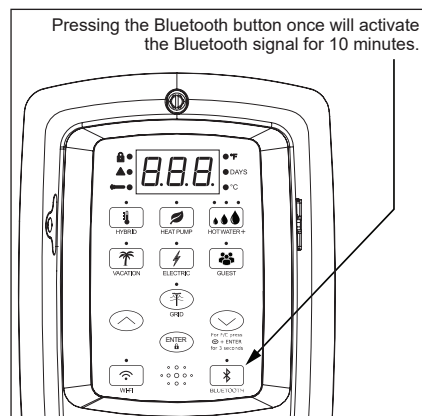

Figure 30 - Bluetooth Control
- 1 To activate the Bluetooth signal, press the Bluetooth button once. The LED will blink on and off in 1/2 second intervals. Bluetooth will activate pairing mode (Figure 30).